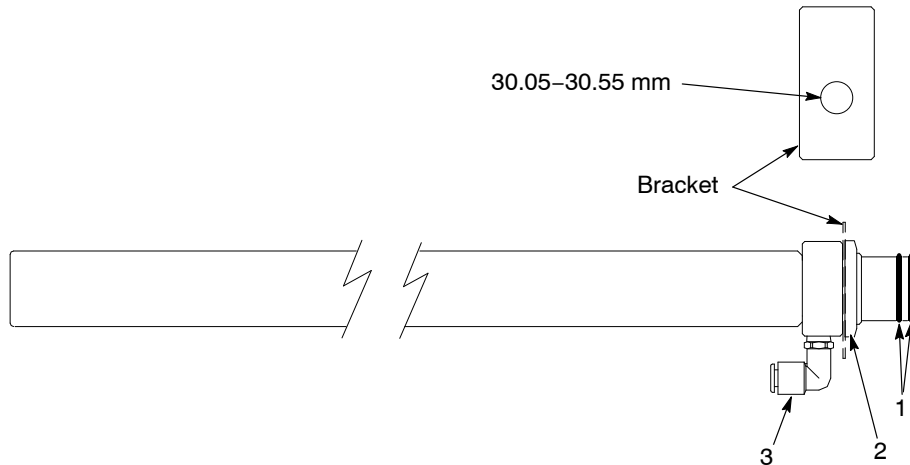

Figure 1 One-Piece Fluidizing Pickup Tube Kit
2. **One-Piece Fluidizing Pickup Tubes Only:** If you are replacing an existing O-ring fit or threaded pickup tube, the outside diameter of the one-piece fluidizing pickup tube is greater than the diameter of the existing hole in the mounting bracket. Drill out the existing hole to the size shown in Figure 1.
See Figure 1.
NOTE: If you order this kit to replace an existing O-ring fit or threaded pickup tube, the outside diameter of the new tube is greater than the diameter of the hole in the bracket. You must drill out the hole to the size shown in Figure 1.